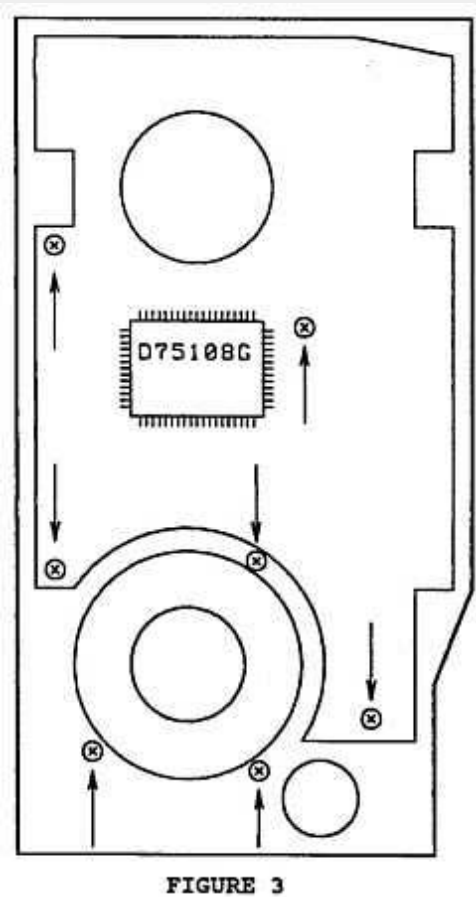

FIGURE 3
4. Remove the 4 screws from the Control board inside the front panel. Figure 3.
5. Remove the 3 screws from the speaker mount. Figure 3.